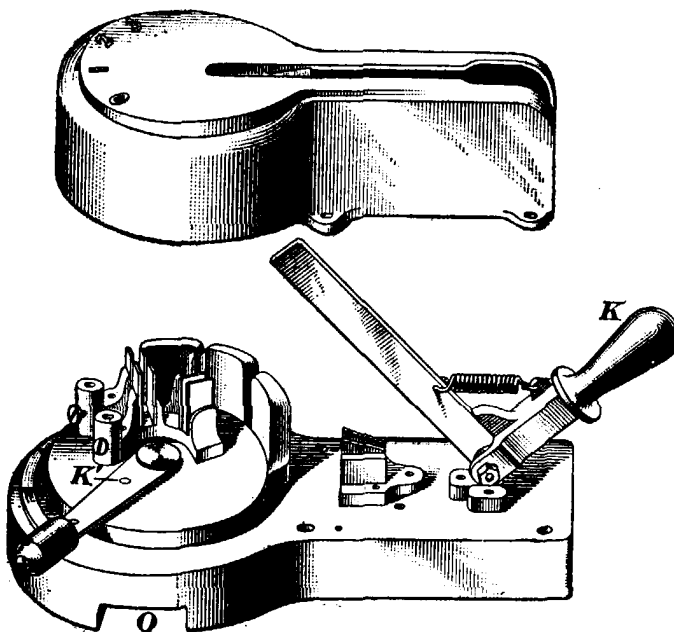
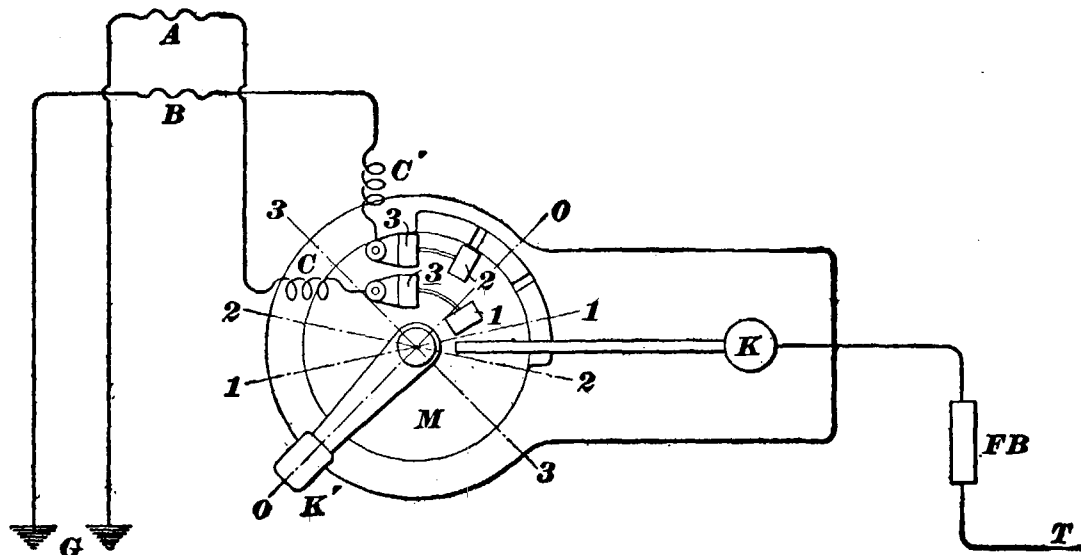

FIG. 36.
FIG. 37.
Fig. 36 shows the Johns heater switch. The main point about this switch is that before any change can be made in the combination in which
the heaters are running, the main heater circuit must be opened. In Fig. 36, switch K opens and closes the heater circuit and blade K' makes the combinations corresponding to the several marked notches indicated by the dotted lines on the heater case in Fig. 37. By such an arrangement, all tendency to blister and burn is confined to a quick-break
35. Fig. 37 is a diagrammatic sketch of the connections of the Johns heater switch. In the figure, the switch is at